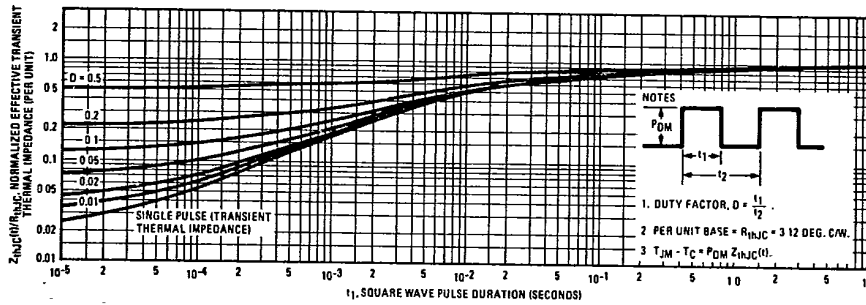

Fig. 5 - Maximum Effective Transient Thermal Impedance, Junction-to-Case Vs. Pulse Duration
① T_J = 25°C to 150°C. ② Pulse Test: Pulse width < 300μs, Duty Cycle < 2% ③ Repetitive Rating: Pulse width limited by max. junction temperature See Transient Thermal Impedance Curve (Fig. 5).